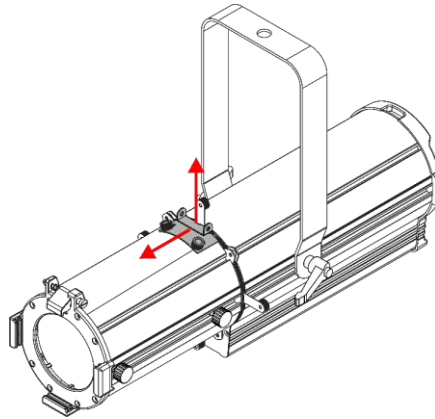

Fig. 17
- 02) Slide the **gobo slot cover plate (10)** towards the **lens (07)** (see Fig. 17).